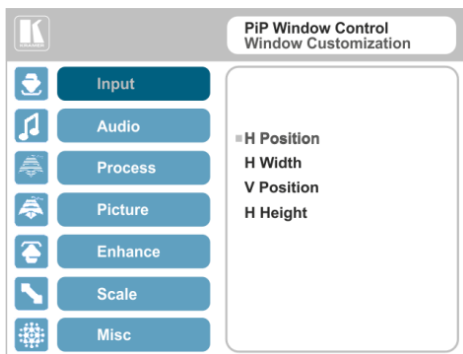

Figure 16: Window Customization
2. Select Window Customization (see Figure 16).